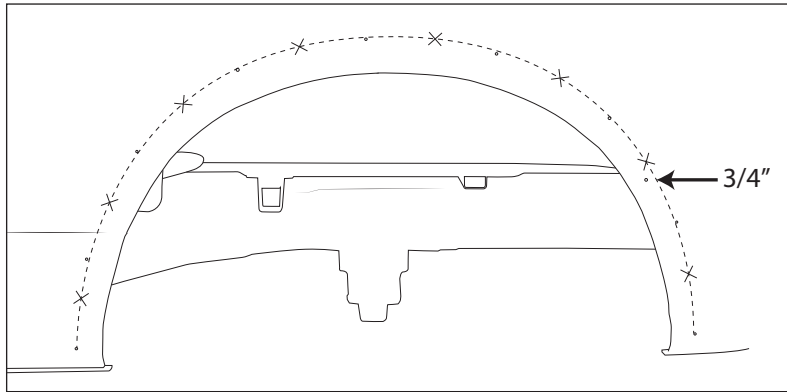

Figure 15
- J. Mark 8 more holes on the same arch as the templates directly between the current locations (fig. 15).
- M. In total there should be seventeen 1/2 in holes, and one 3/4" hole (per side). The 3/4" hole will be for the marker light wires to pass through (fig. 15).